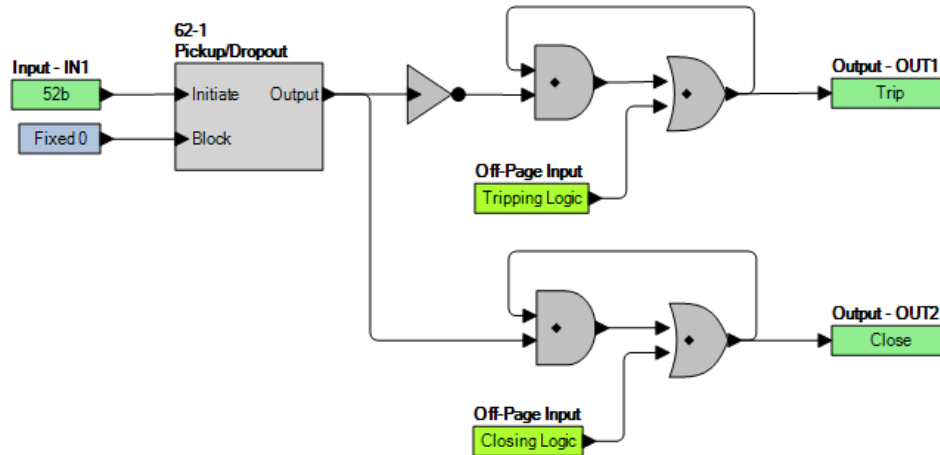

Figure 10-25. Contact Output Seal-In Logic Diagram
To prevent the output relay contacts from opening prematurely, a hold timer (4 to 2,000 ms) can be set with *BESTCOMSPlus*. If desired, seal-in logic with feedback from the breaker position logic can provide this function by modifying the logic for the tripping output. To do this, use one of the general purpose timers (62) and set it for Pickup/Dropout mode. Set the timer logic so that it is initiated by the breaker position input and set the timer for 2 cycles pickup and 2 cycles dropout. The same can be done for the closing output. Figure 10-25 provides a seal-in logic diagram.